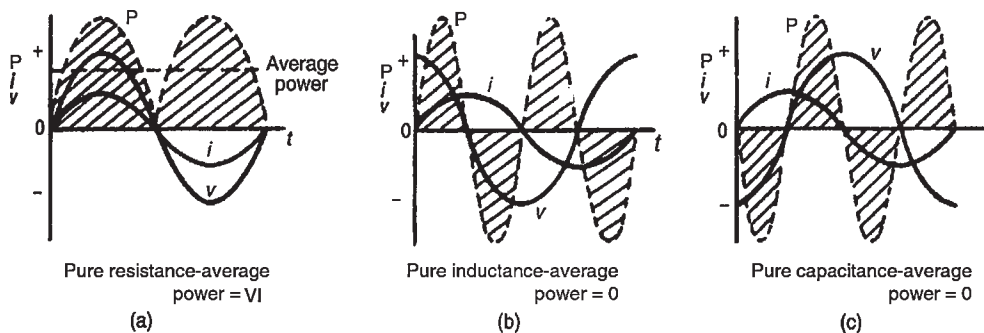

Figure 17.23
In Figs 17.23(a)–(c), the value of power at any instant is given by the product of the voltage and current at that instant, i.e. the instantaneous power, $p = vi$, as shown by the broken lines.
$P = VI = I^2R = V^2/R$ watts (V and I being r.m.s. values) See Fig. 17.23(a).
- (b) For a purely inductive a.c. circuit, the average power is zero. See Fig. 17.23(b).
(c) For a purely capacitive a.c. circuit, the average power is zero. See Fig. 17.23(c).